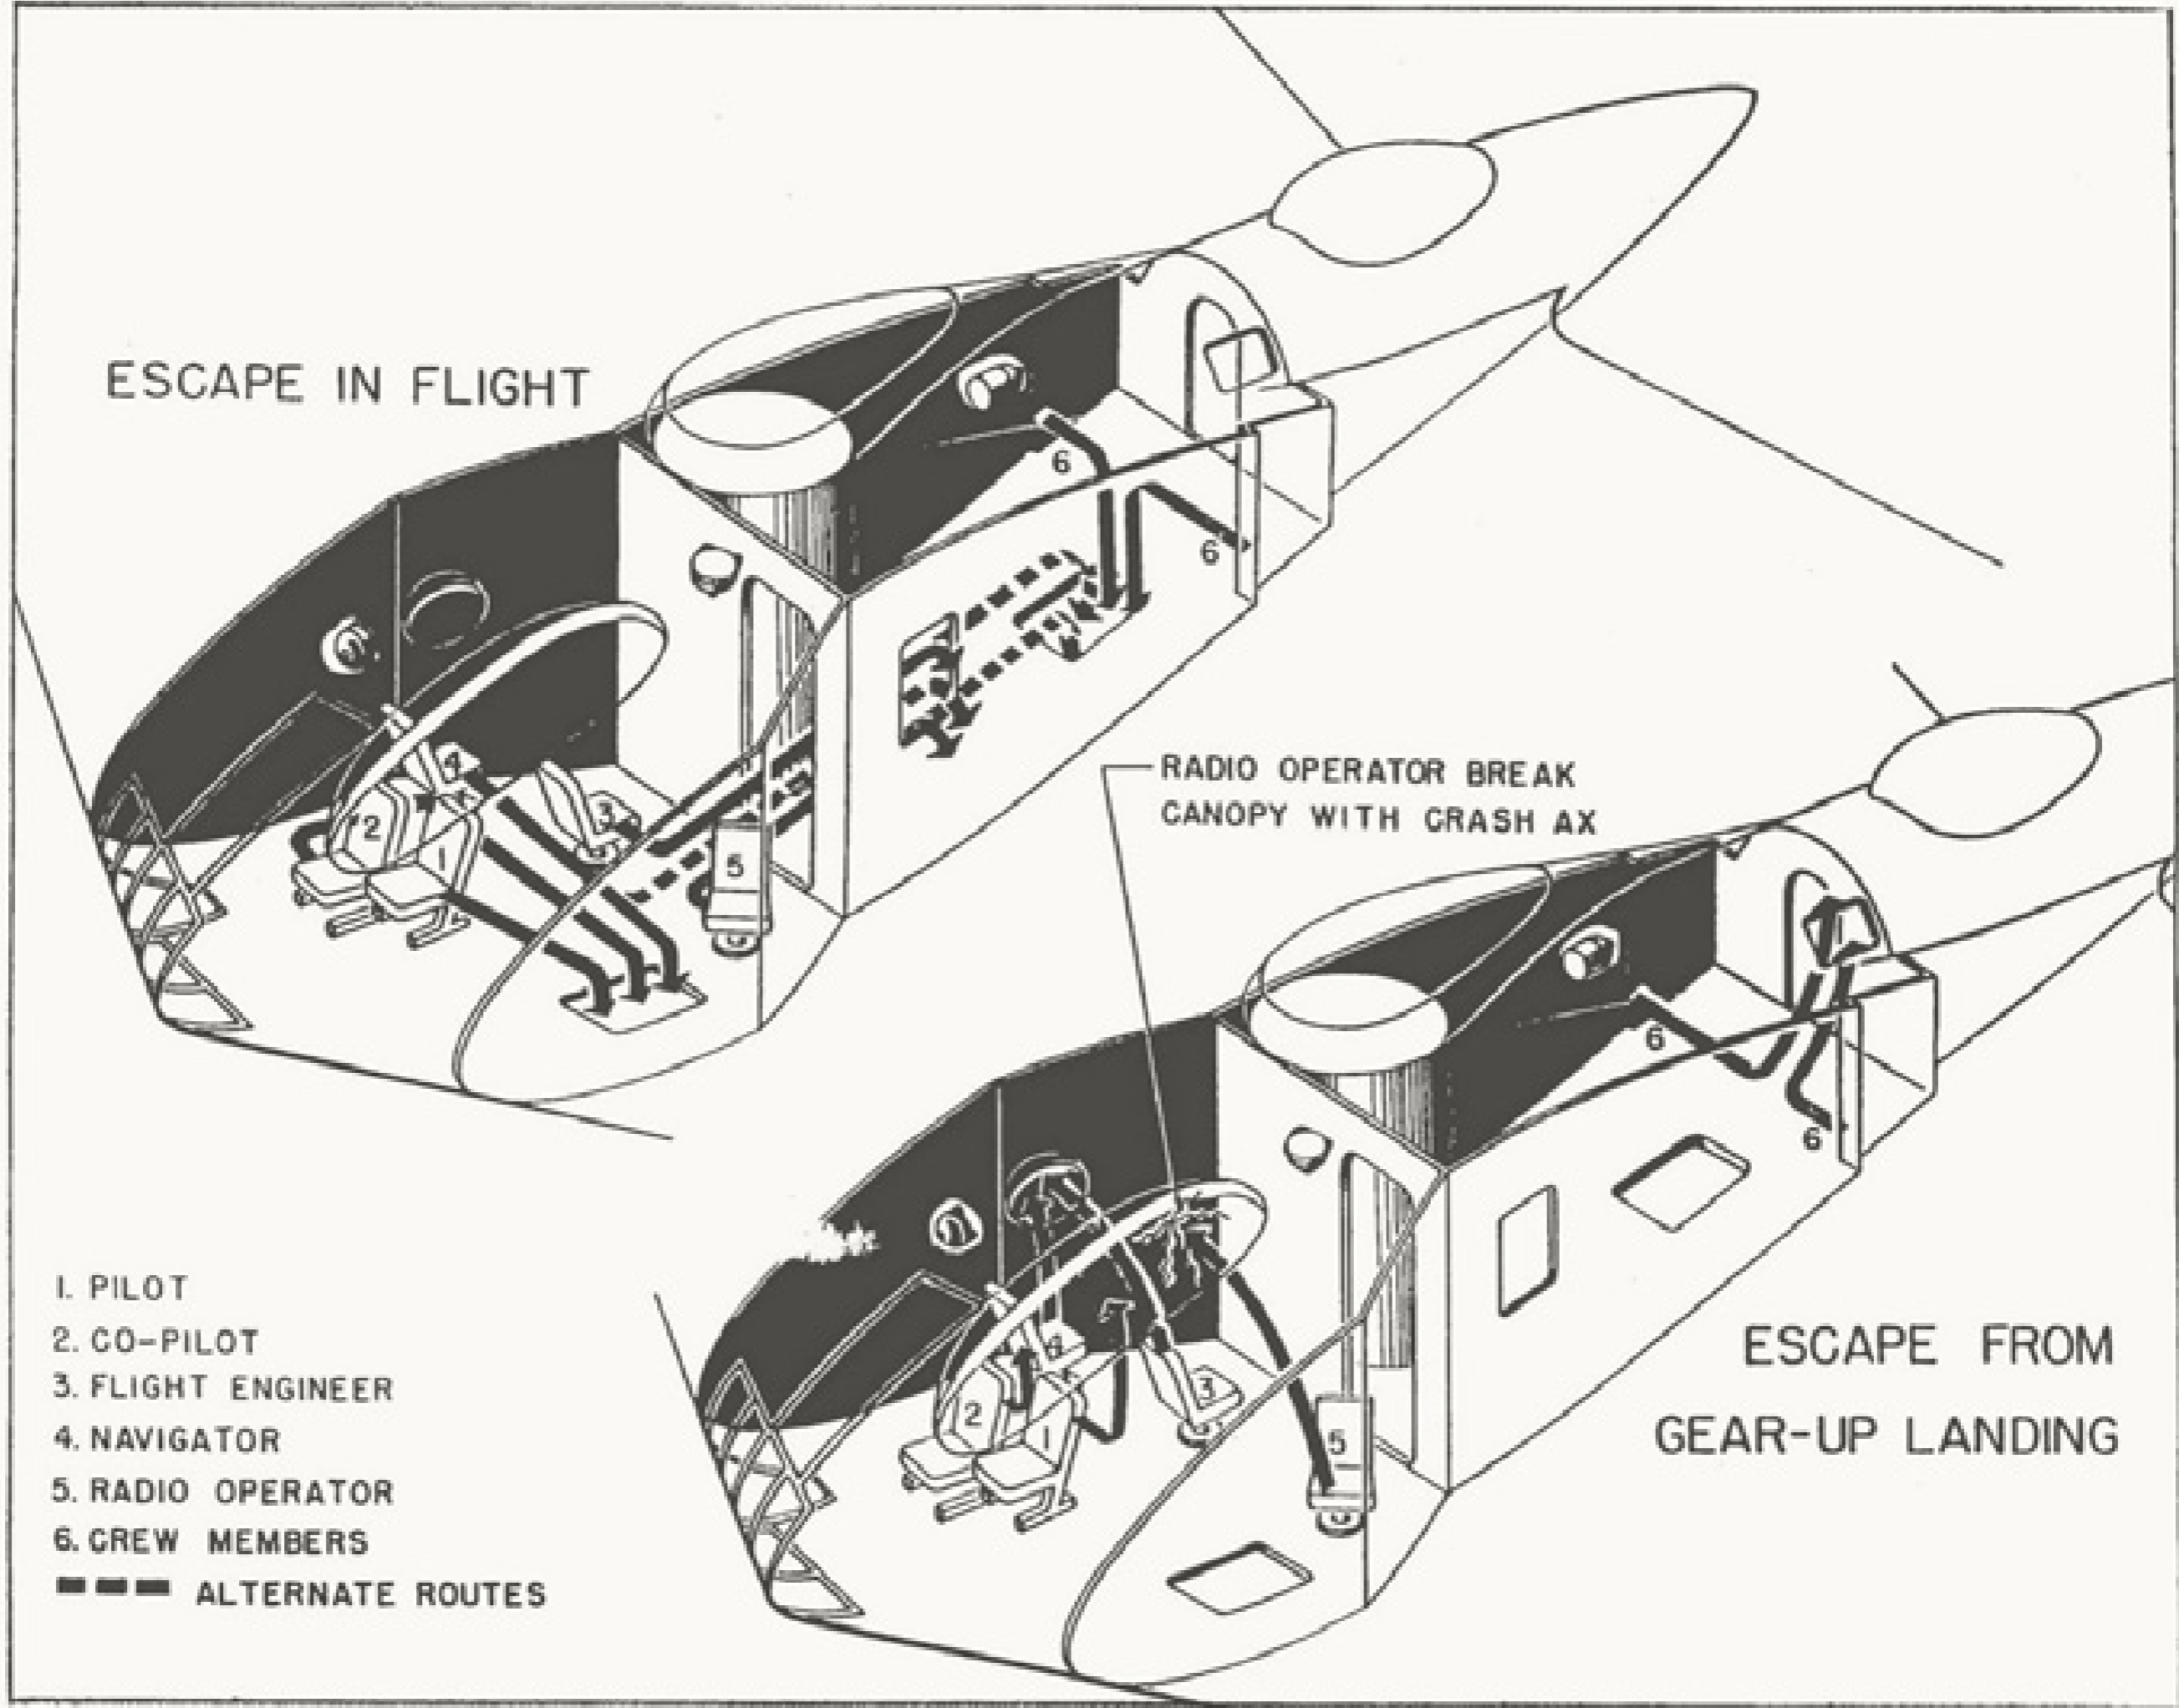

Figure 1. Emergency Crew Exits
1. EMERGENCY ESCAPE. (See figure 1.)